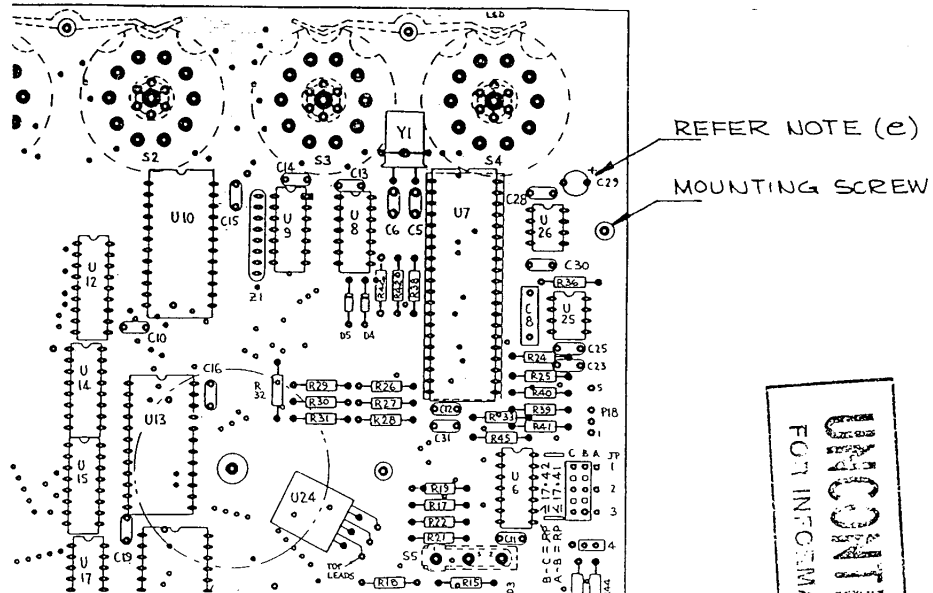

Fig. 1 Processor PCB lay-out
- On the Processor PCB, remove the 40-pin IC (U7) from the board. Also remove the PCB mounting screw located beside U7. See Fig. 1 below.